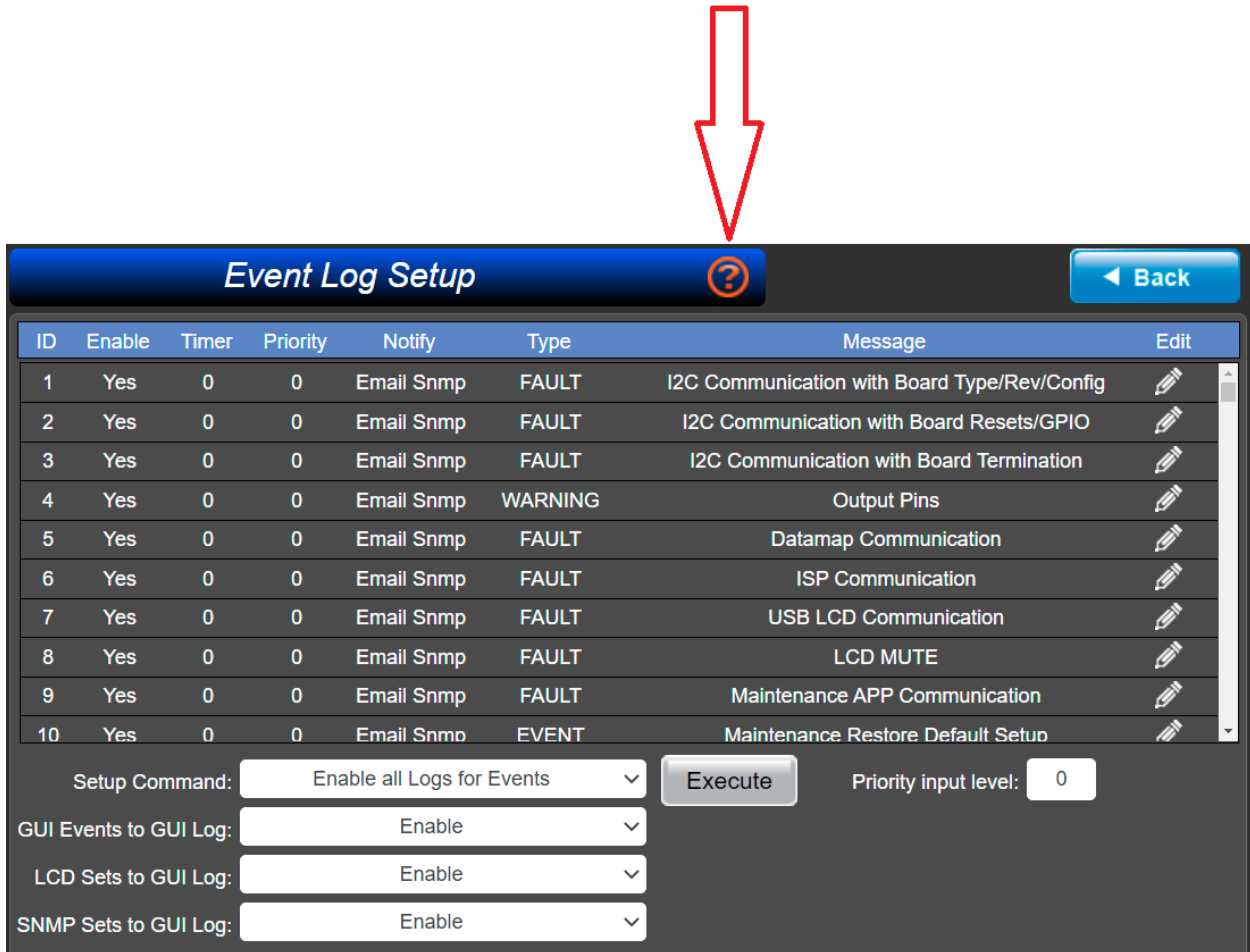

Figure 4-46 Event Log Setup Screen
- Table 4-22 details the Event Log Setup main screen, Figure 4-46.